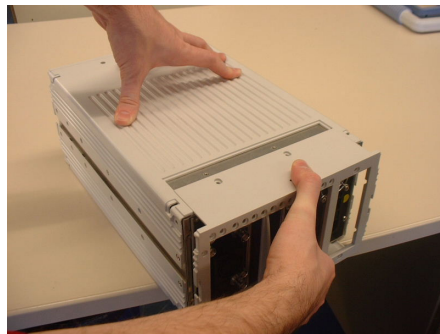

Figure 1-6
5. Pull off frame with rear bars toward rear.(see Figure 1-6) (Rear bars are held in place in frame by means of frictional connection).